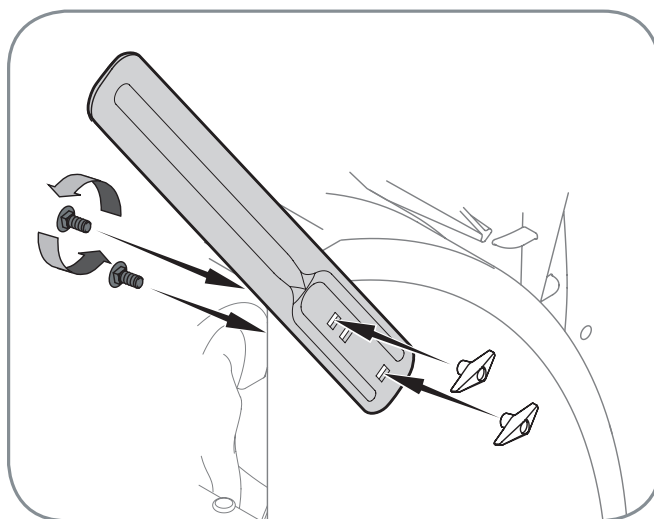

Figure 3-15
- Reposition drift cutters so they face forward as shown in Fig. 3-15. Secure with hardware previously removed, wingnuts should be fastened on the **outside** of the housing as shown.